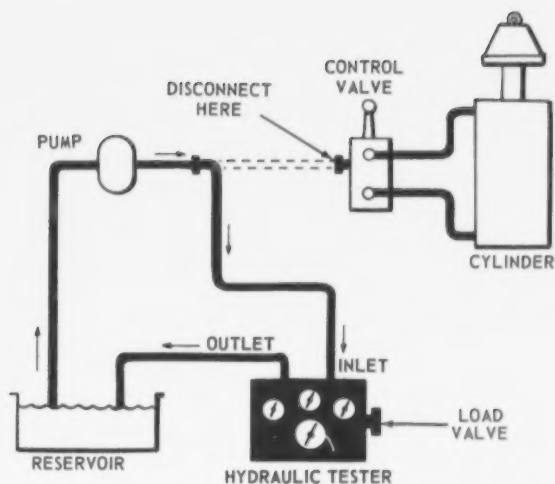

Fig. 29—Testing The Hydraulic Pump
1. Relieve any pressure in the system and disconnect the pressure line between the pump and the control valve. Attach the pressure line to the hydraulic tester INLET port (Fig. 29).